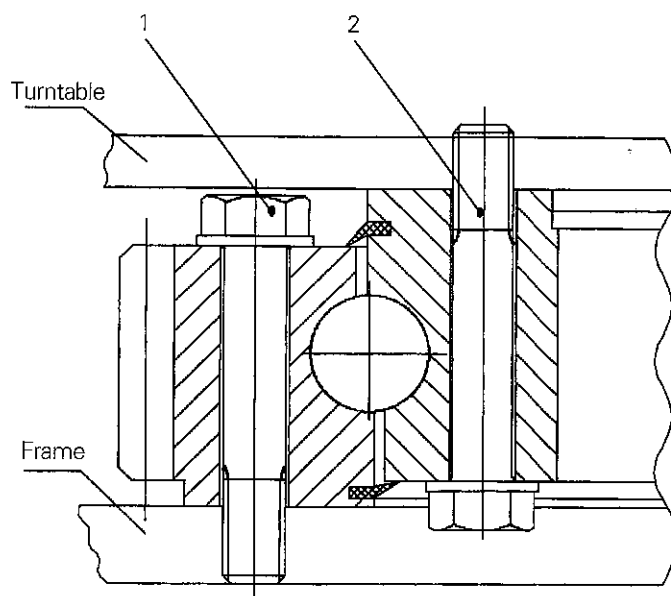

Fig 5—4 Slewing ring structure diagram
(1) The structure of main and auxiliary hook blocks refer to Fig. 5—5.
(2) Inspection: